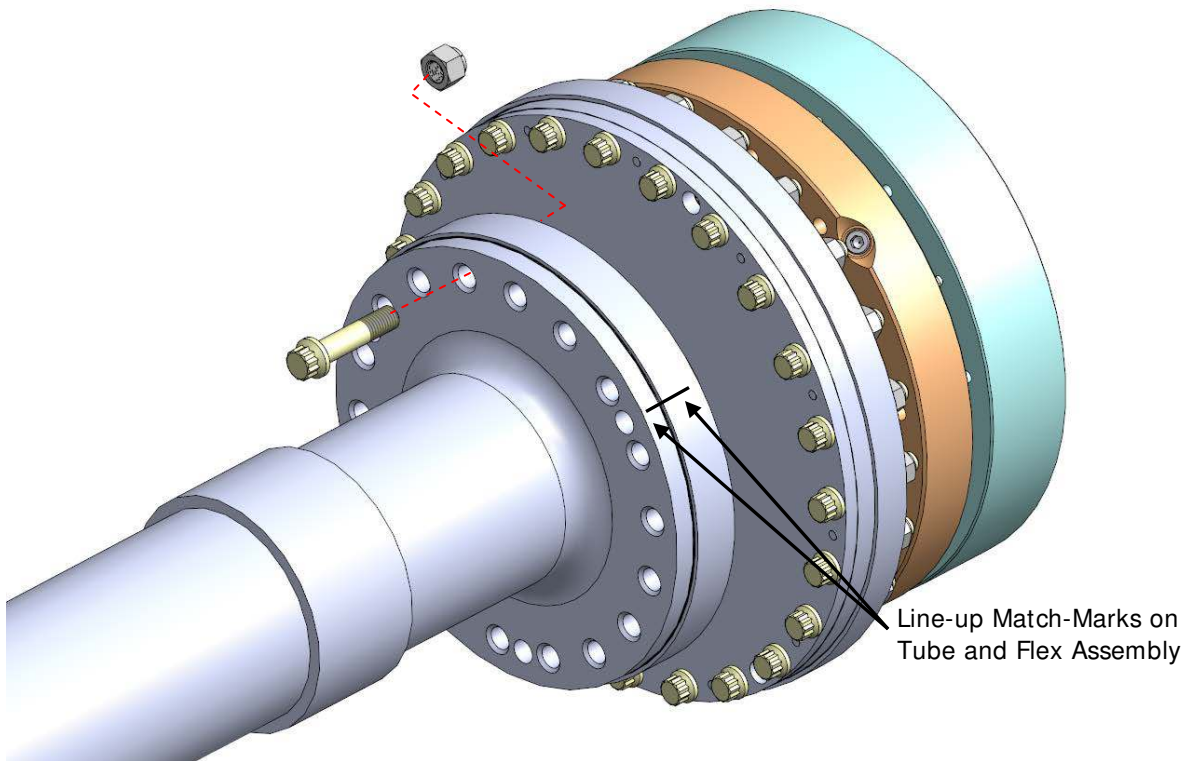

Figure 11 – Align Tube to Flex Assembly
4.2.2 Rotate the tube to line-up match-mark on the flange OD with the match-marks on the flex assembly OD, and align the holes using Qty (4) bolts spaced 90 degrees apart, as shown in Figure 11. The match-marks must be aligned to ensure access to the jacking holes used during removal.